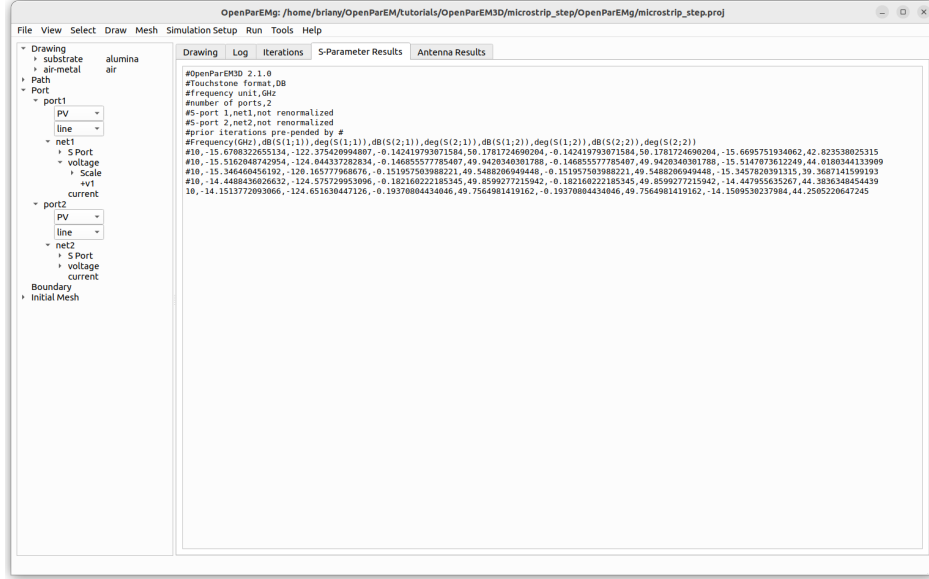

Figure 13: Computed results for the microstrip step.
- The simulation results should be very similar to those shown in Fig. 13. Note that the results will not be exactly the same due to the iterative solution in combination with MPI processing.